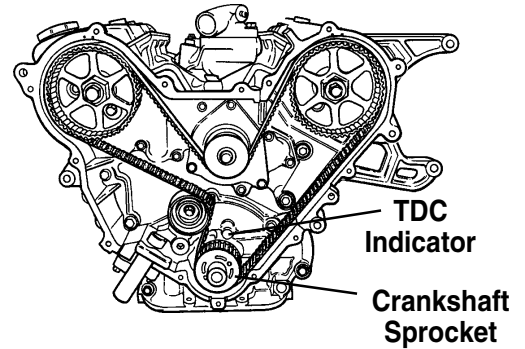

Figure 1
1. Place the crankshaft sprocket to the top dead center (TDC) mark on the oil pump housing. See Figure 1.